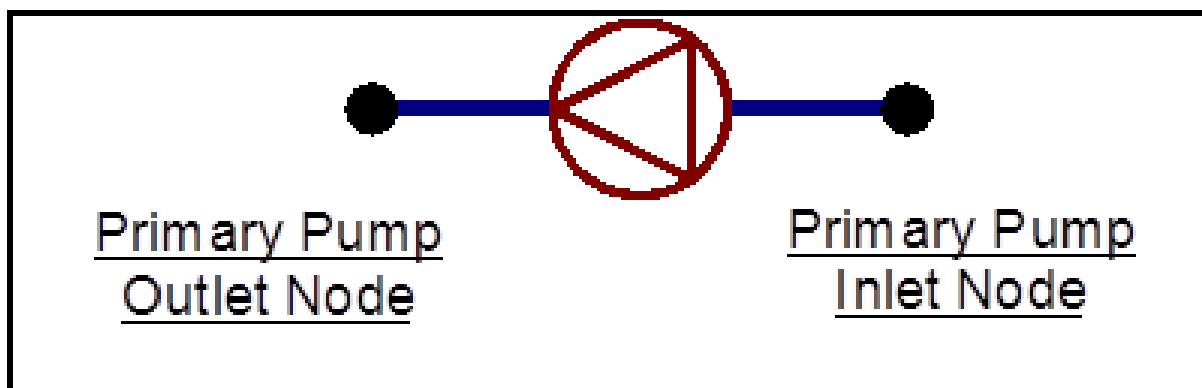
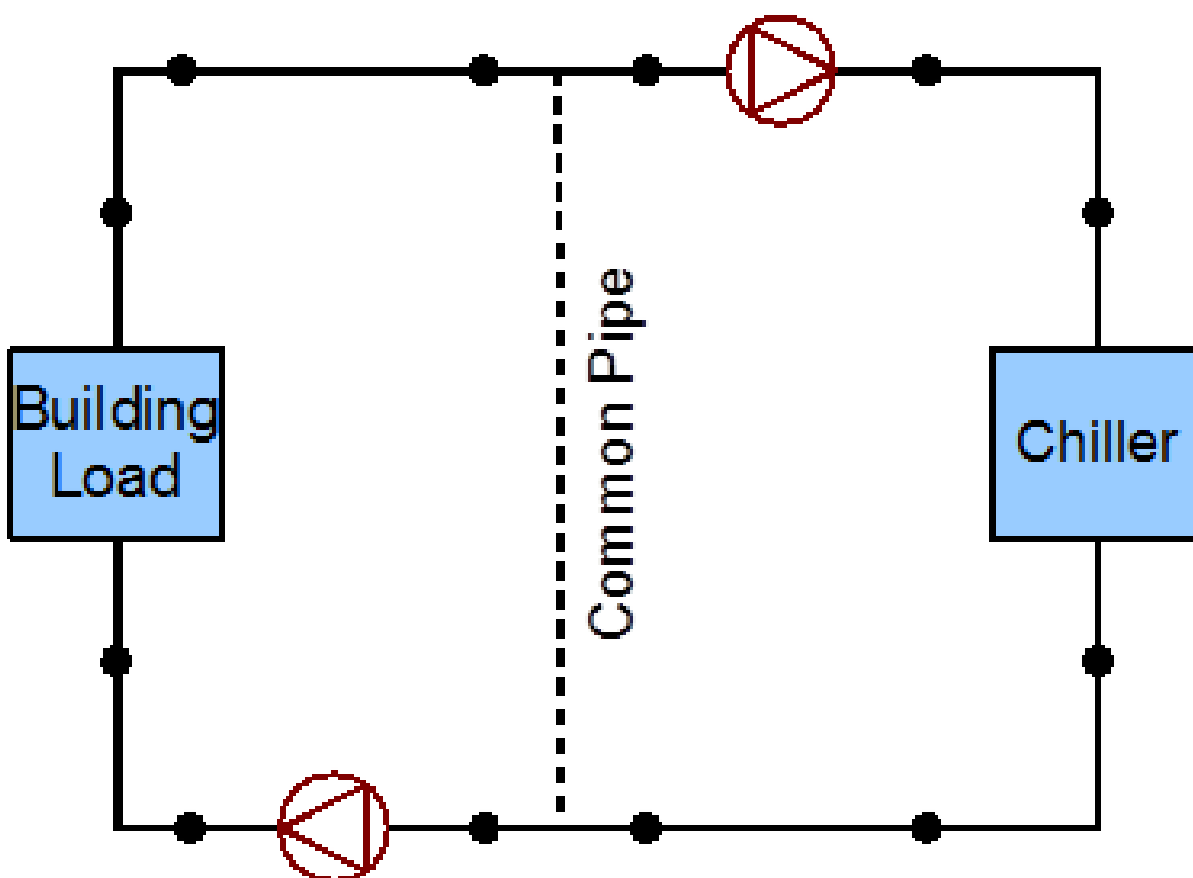

Figure 4.5: Node placement on components
Figure 4.6: Nodes in the system
5. **Identify all the nodes in the system.** As mentioned above, placing a node on each side of a component is a good way to pinpoint all the nodes in the system. This process should be repeated for every component in the loop. Figure 4.5 shows the placement of all the nodes on Individual components, while Figure 4.6 shows all the nodes in the system.